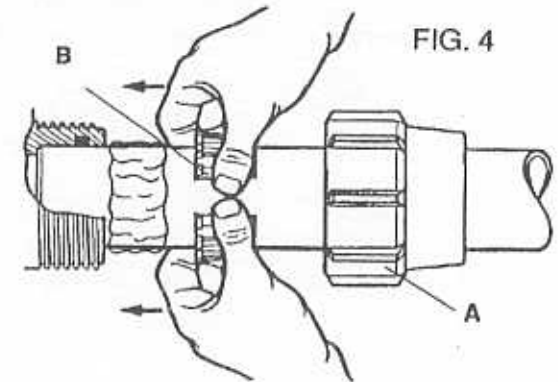

FIG. 4
- Slide pipes into water inlet and outlet (Fig. 4).
- Then place the ferrules over the pipe using both thumbs in the slot to widen the ferrule and avoid scraping off the adhesive (Fig. 4).